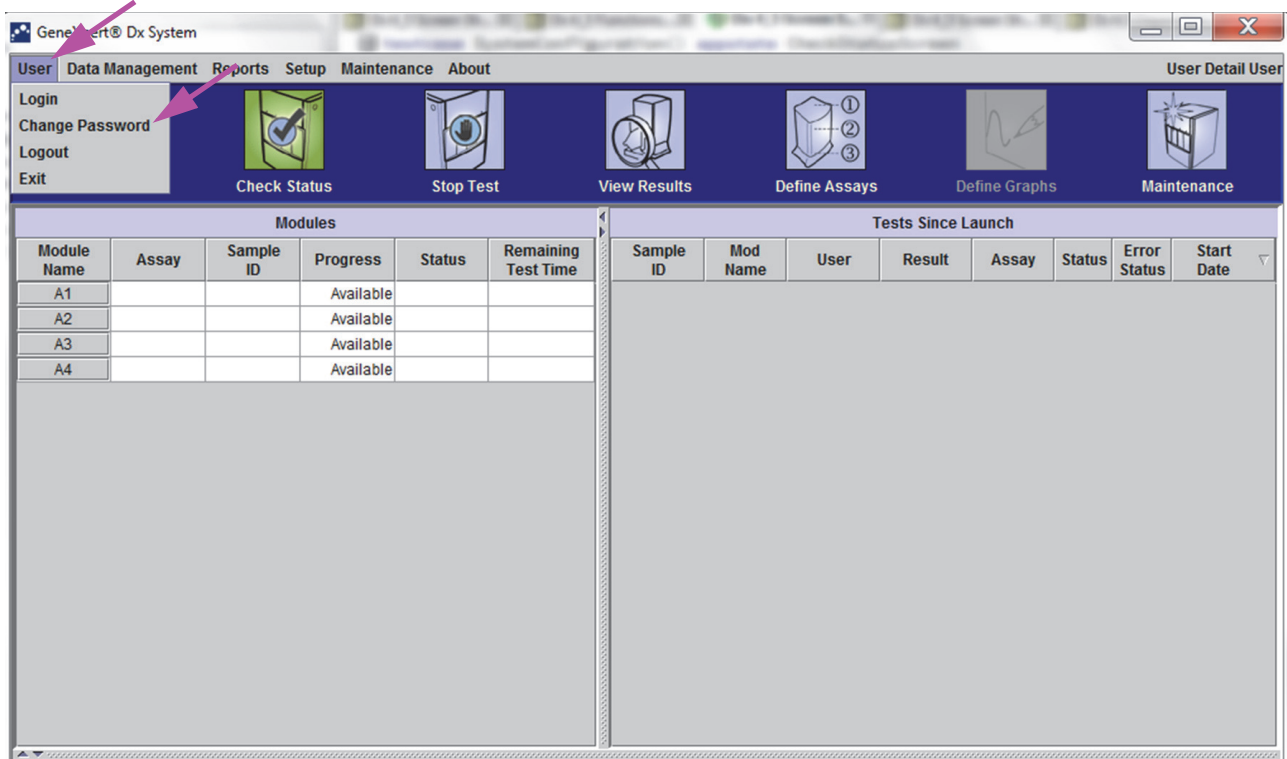
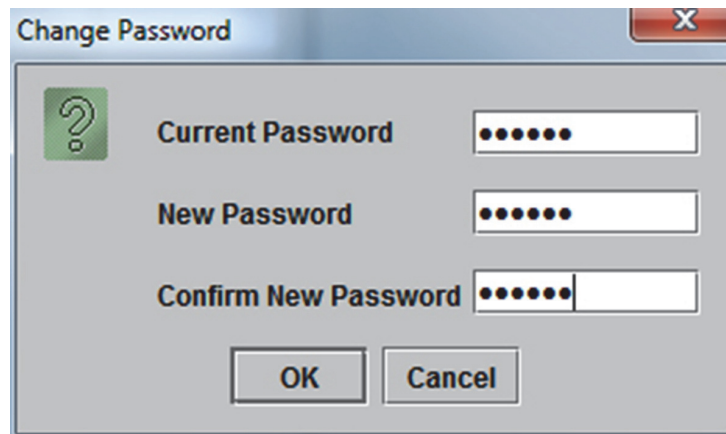

Figure 5-12. User Menu (Change Password)
Figure 5-13. Change Password Dialog Box
1. In the GeneXpert Dx System window, on the **User** menu, click **Change Password**. See Figure 5-12. The Change Password dialog box is displayed (see Figure 5-13).